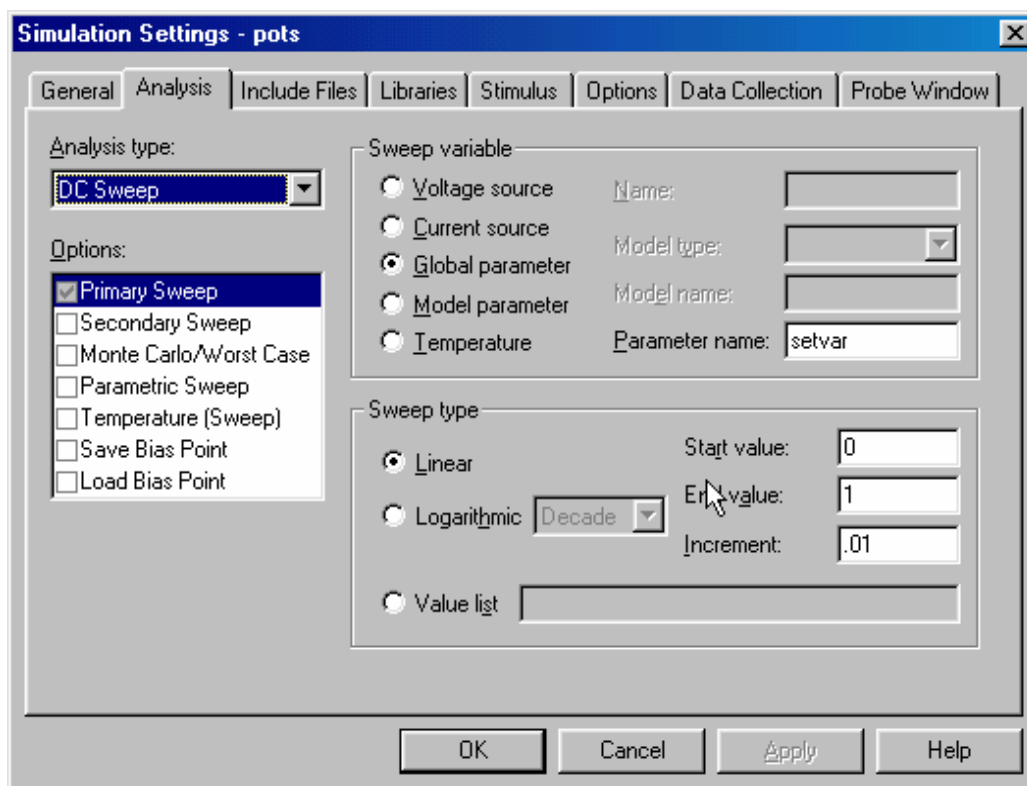

Figure B-8
- Next we will set up the analysis (See figure B-8 on the following page).